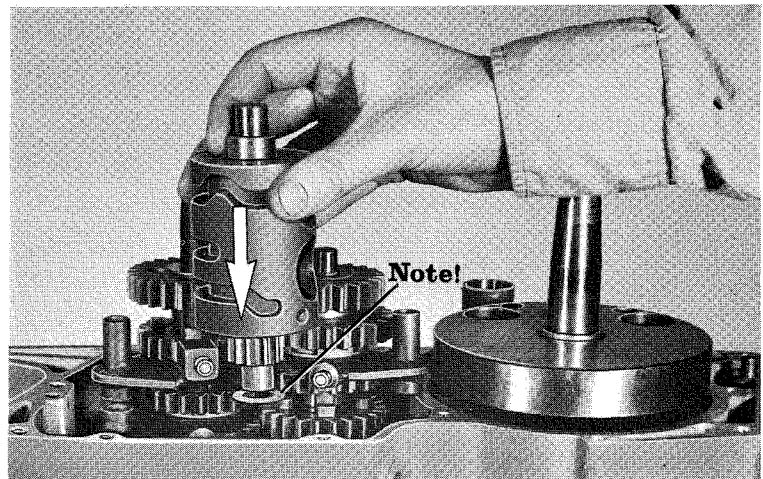

Fig. 16
16. Fit the shifting drum in place with the washer underneath. See Fig. 16.